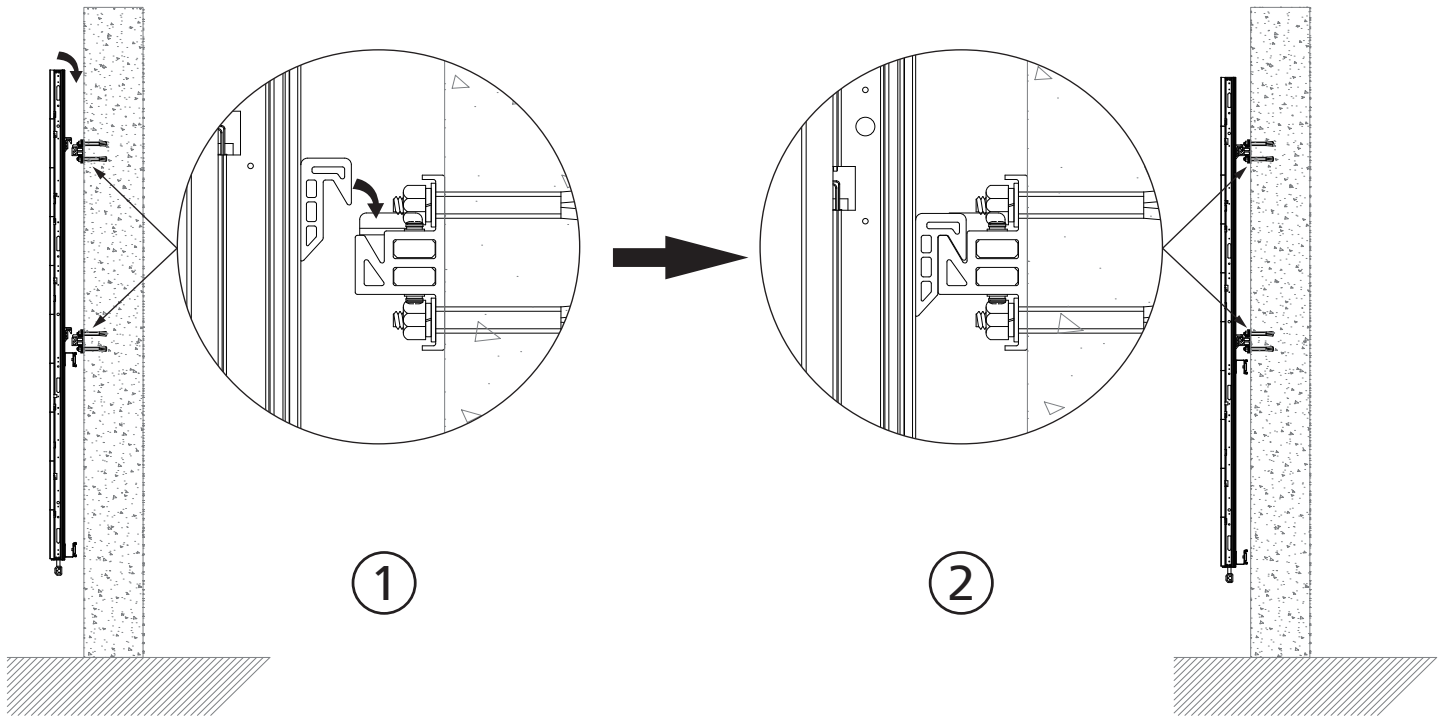

Figure 8 Side View of Crossbeam Installation & Diagram of Hanger Installation
5. Hang the cabinet X-X-A on the groove of the crossbeam through the hangers , as shown in Figure 8.